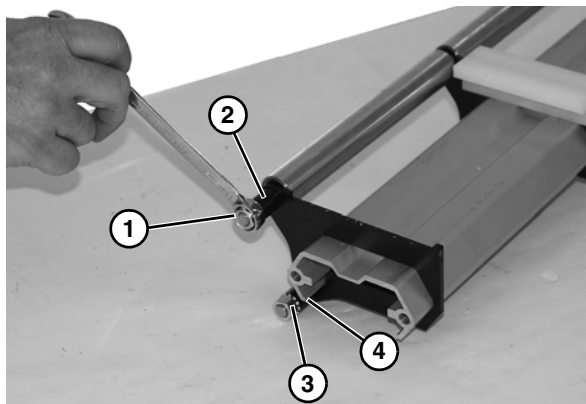

Figure 67
6. Remove upper nut (**Figure 67, item 1**) and spacer (**Figure 67, item 2**) from end of axle shaft assembly.
7. Remove lower nut (**Figure 67, item 3**) and spacer (**Figure 67, item 4**) from lower axle shaft assembly.